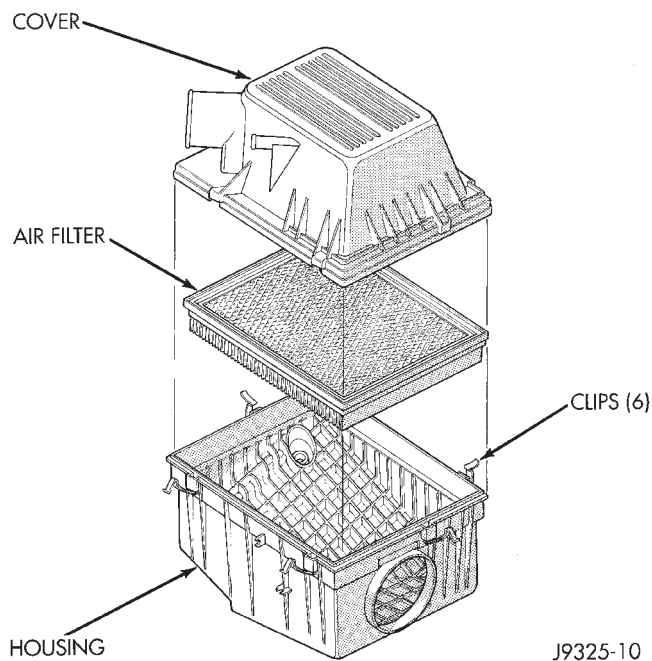

Fig. 5 Air Filter Removal/Installation
(1) Pry back the six clips retaining the air cleaner cover to the air cleaner housing (Fig. 5).